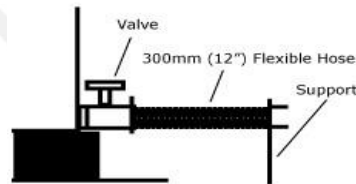

FIGURE 4
□ Support all pipe to minimise strain on fitting and tank wall (see figure 4).